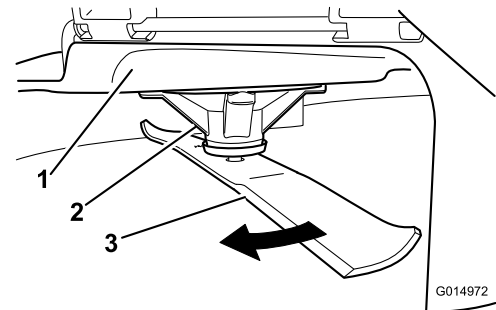

Figure 78
2. While wearing thickly padded gloves, or other adequate hand protection, slowly rotate the blade into a position that allows you to measure the distance between the cutting edge and the level surface the machine is on (Figure 78).